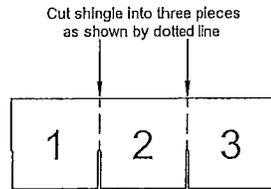

Figure 44. Shingle cut into thirds
4. **Install shingle cap.** Starting at the opposite end of the home from the prevailing wind, install ridge cap shingles provided by the manufacturer or use 12" x 12" shingles (36" shingles cut into three equal pieces) (Figure 44). Install using 1" x 1" x 16 ga galvanized staples or 12 ga 1-1/4" long, 3/8" diameter head roofing nails spaced 5-5/8 inches from bottom edge and 1/2 inch to 1-1/2 inches in from both edges. Cover the exposed fasteners with tar or cement.